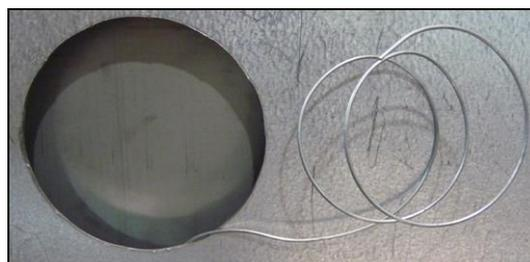

Fig. 3.11
7. Insert the wire through the upper hole of the fan's fresh air ducting until it comes out by the lower part (Fig. 3.11).